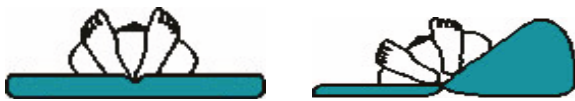
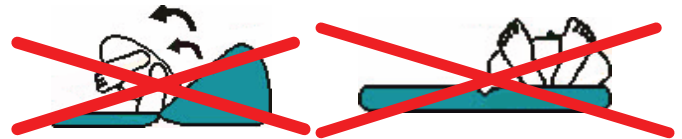

Figure 5 – Correct patient positioning
Figure 6 – Incorrect patient positioning
3. Check the patient frequently during Lateral Rotation for proper positioning and support surface inflation (Figure 5 and Figure 6).